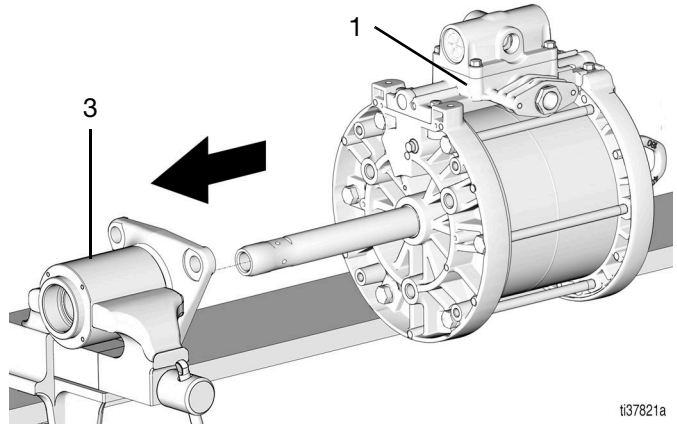

FIG. 22
6. Reinstall the air motor (1) by sliding the displacement rod (14) through the outlet housing (3) (FIG. 22).